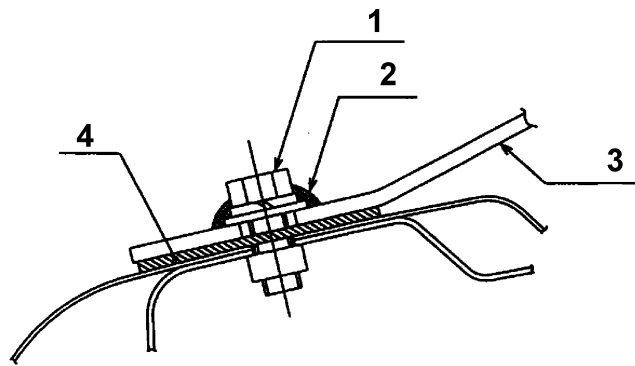

Fig. 3
- A top coat of paint must be applied to externally mounted parts before attaching to the roof. (See Fig. 3.)